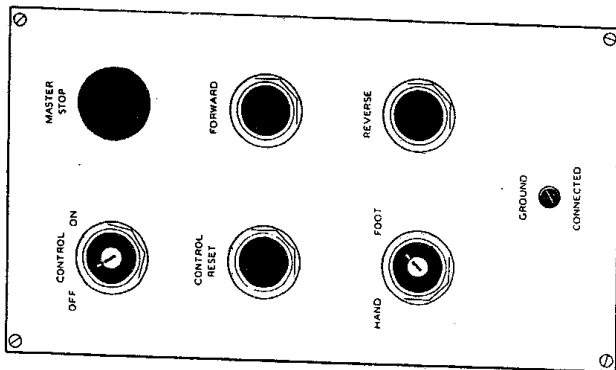

Fig. 1
2. Adjust the clearance between the cutters by use of feeler gages to about ten percent the thickness of the metal to be slit (see Fig. 1). This adjustment is made by means of the knurled screws.